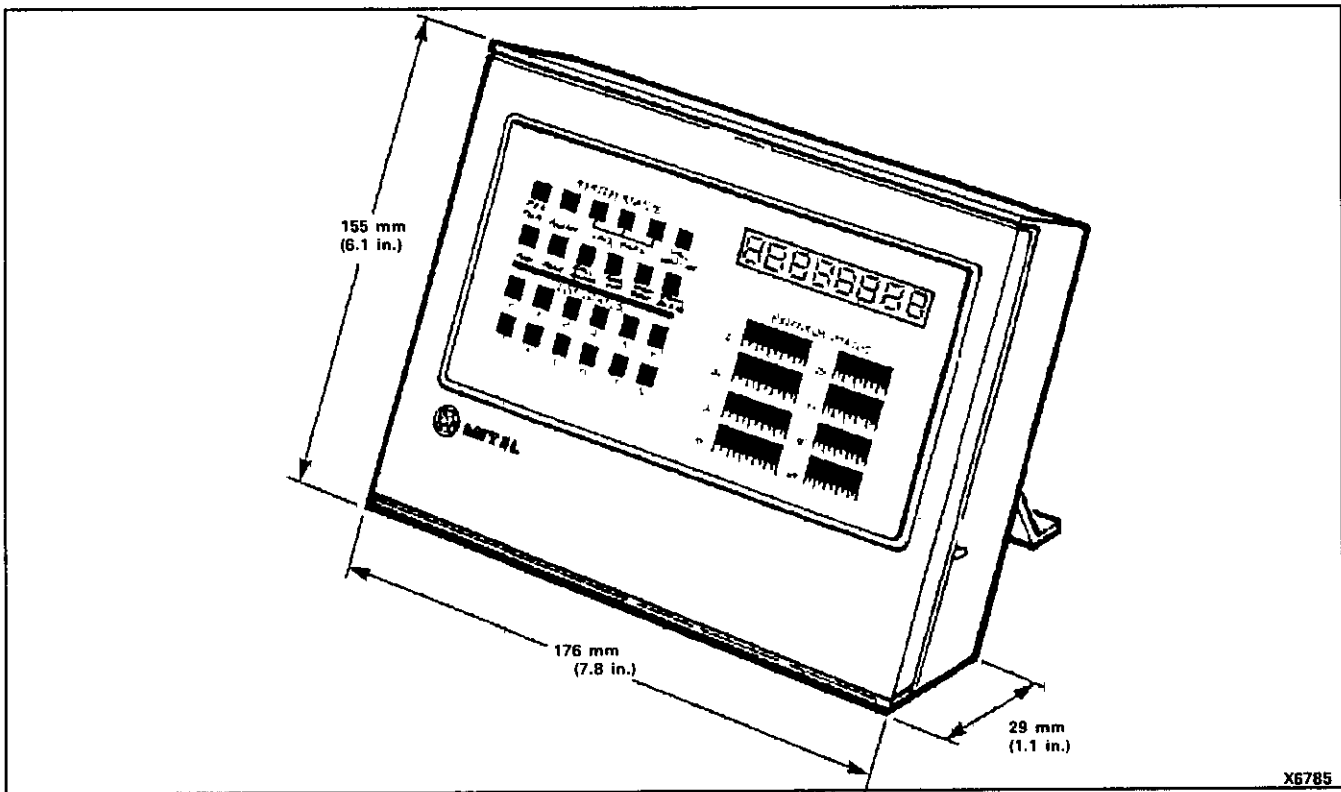

Figure 3-4 SX-20 Optional Remote Call Status Display
3.11 An Optional Remote Display (refer to Figure 3-4) can be connected via the remote display jack on the Universal Console Connector Card. This display provides all information available with the cabinet display. When the Miscellaneous Card is used, a 22-gauge